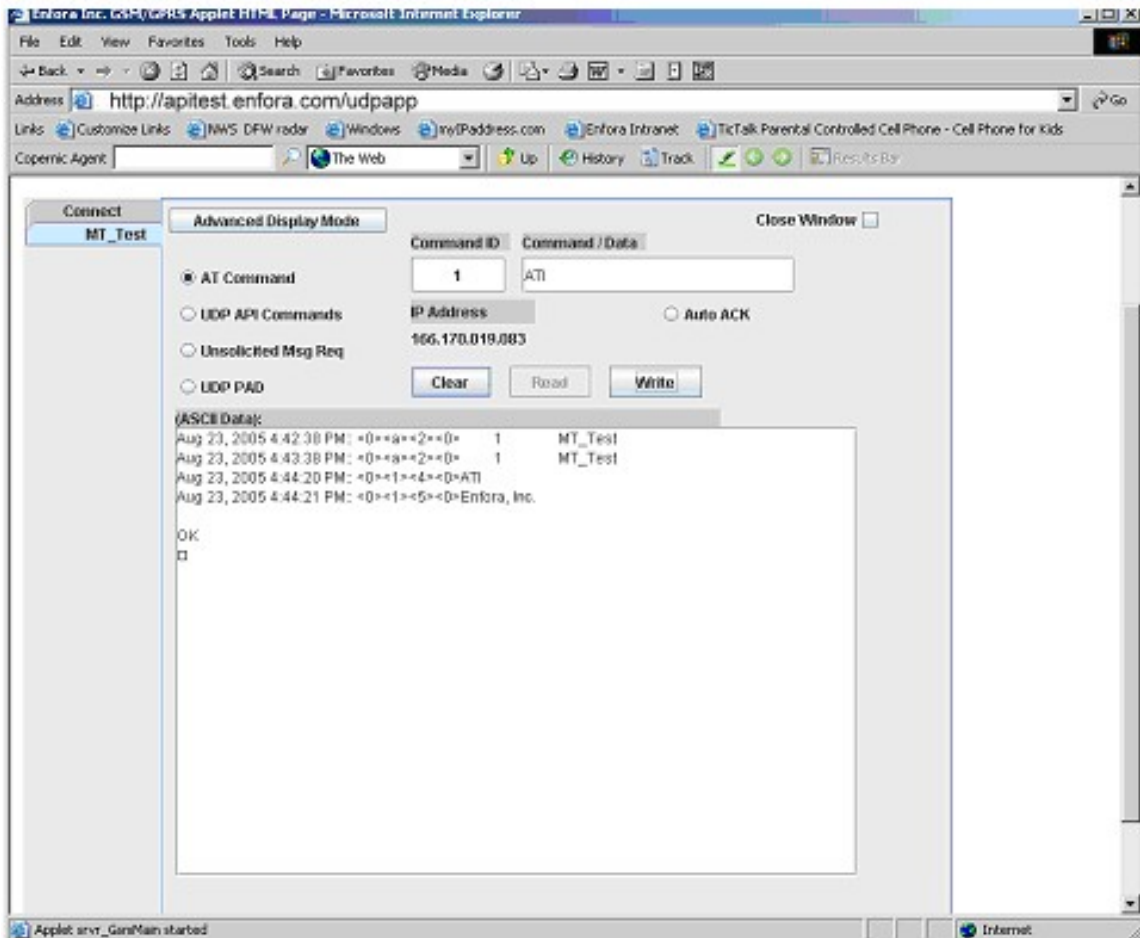

Figure: 25 - ATI Response
6. Verify that you see the device respond with Enfora, Inc. See Figure: 25 - "ATI Response" . If so, you have successfully configured the device to talk with the server.